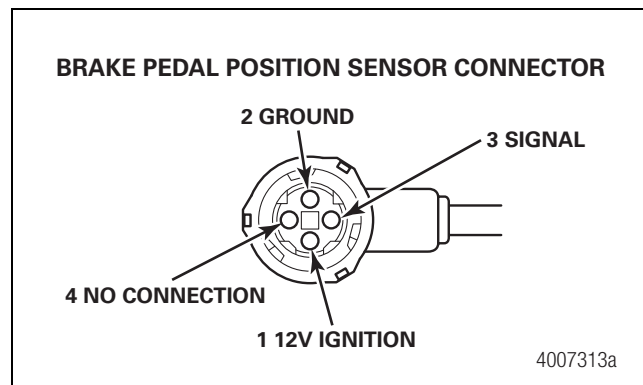

Figure 2.34
4. If the display does not advance as described, the BPP sensor may be damaged, blocked by air system contaminants (water, ice, oil, etc.) or the harness and connections may be damaged. Figure 2.34.